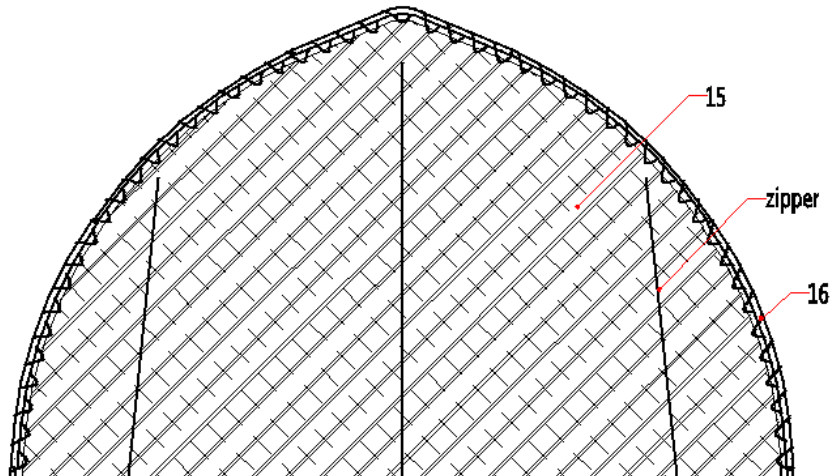

Figure 7
- Lift up front fabric panel (#15), starting from the center point of the frame (highest ridge point) use rope (#16) through the grommets to tie the panel to the truss firmly. Repeat the same step to install the rear truss panel (Figure 7).